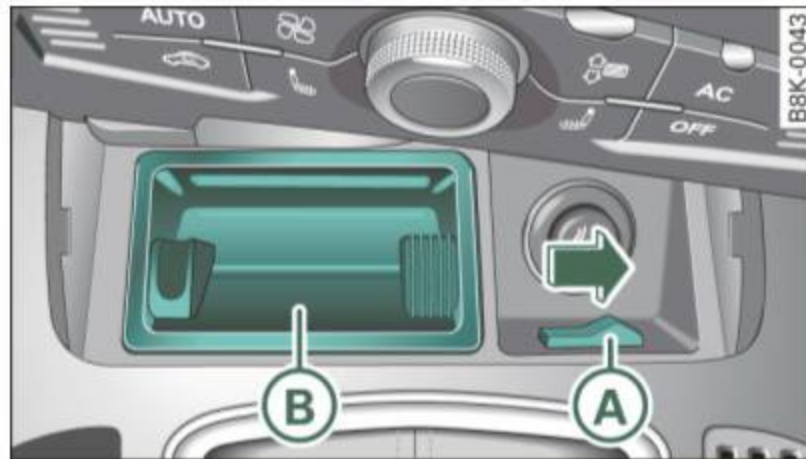

Fig. 101 Center console: front ashtray
- Release the ashtray insert by sliding the switch (A) ⇒ fig. 101 to the right.
- Remove the ashtray insert (B) ⇒ fig. 101.